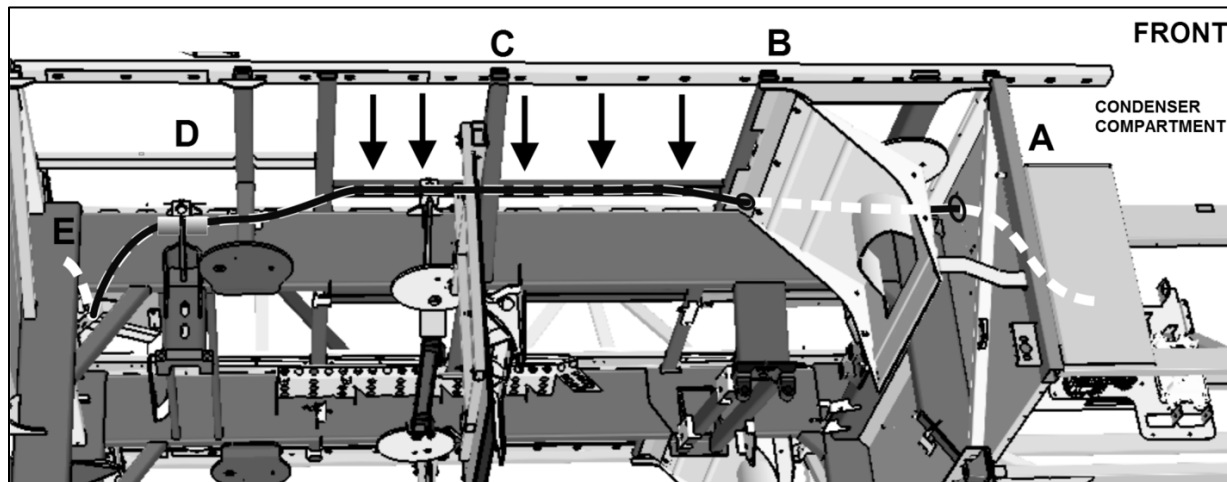
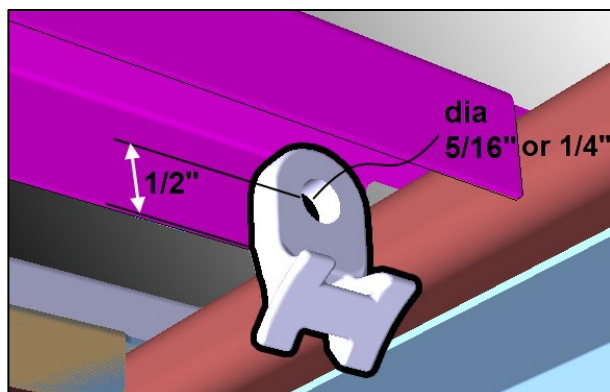

FIGURE 7 : OVERVIEW
FIGURE 12 507383 CABLE TIE SUPPORT LOCATION
B1. On the aft wall of the condenser compartment, (A, Fig. 7)
- B3.** Install the cable tie supports #507383 inside the longitudinal channel closest to the vehicle frame. (Fig. 12)
- B5. RIVETING:** Drill a 1/4" hole and install the supports at 1/2" from the channel bottom edge with #504610 rivets at locations shown on Figures 7 & 11. (Fig. 12, 13)
Drill a 5/16" diameter hole at 1/2" from the channel bottom edge (Figure 12).
Place the holes at locations shown on Figures 7 & 11